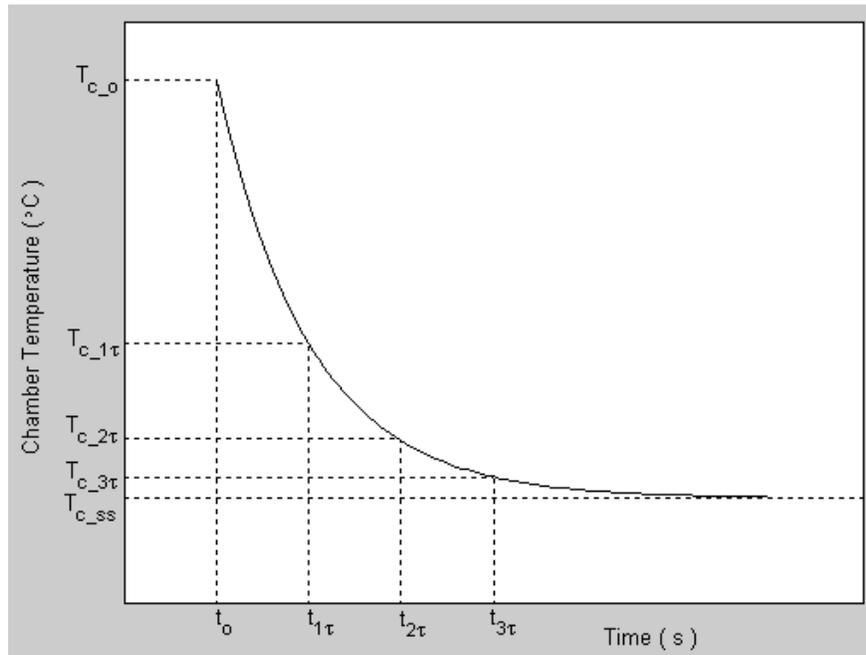

Figure 3 Model Parameter Estimation From A First-Order Step Response During Blowing
As defined in Equation [3], the HVAC system steady-state gain and time constant during blowing, i.e. K_{ss_b} and τ_b , can also be determined experimentally by analyzing the system open-loop response to a step input. A typical first-order temperature response to a blower voltage step input is illustrated in Figure 3, below. The heater voltage is held constant at zero.
During the laboratory session you will obtain the system responses to different amplitudes, K_{v_b} , of step input voltage to the blower. For each experimental step response, the same parameters as those shown in Table 3 and illustrated in Figure 3, should be measured.
However in this case, the time parameters presented in Figure 3, above, are characterized below such that $t_{1\tau}$ is defined by:
- Step 14. Make a screen capture of the obtained step response plot once the response has reached steady-state, which should be around ambient temperature, and join a printout to your report. Your actual response should look similar to the theoretical temperature cooling plot presented in Figure 3.